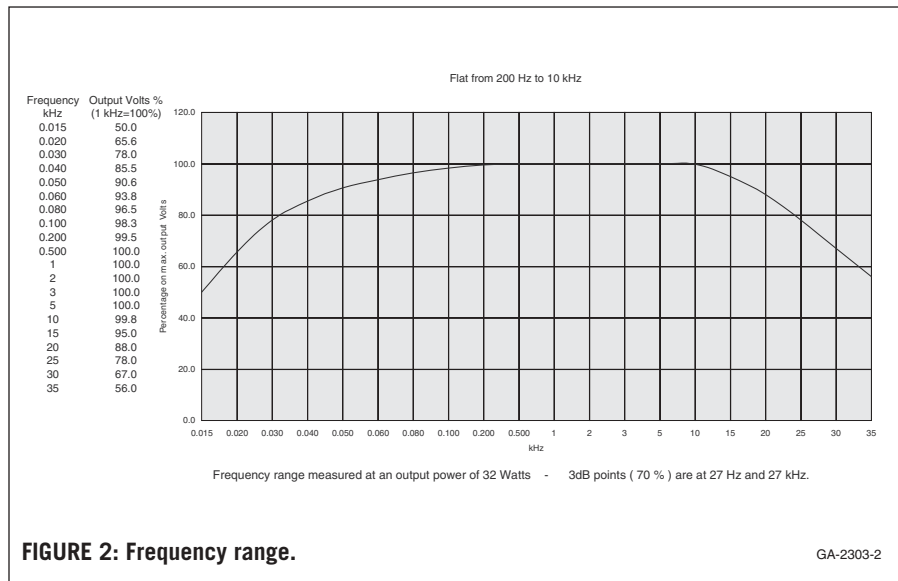

FIGURE 2: Frequency range.
**PHOTO 2:** The special OPT used with the three paralleled 6C33s, whose total idle current is 700-750mA. It's a gapless transformer, self-compensating at low flux. *Figure 3* confirms that this OPT can handle the 50W output without excessive distortion, and *Fig. 2* shows that the frequency range is quite extended.